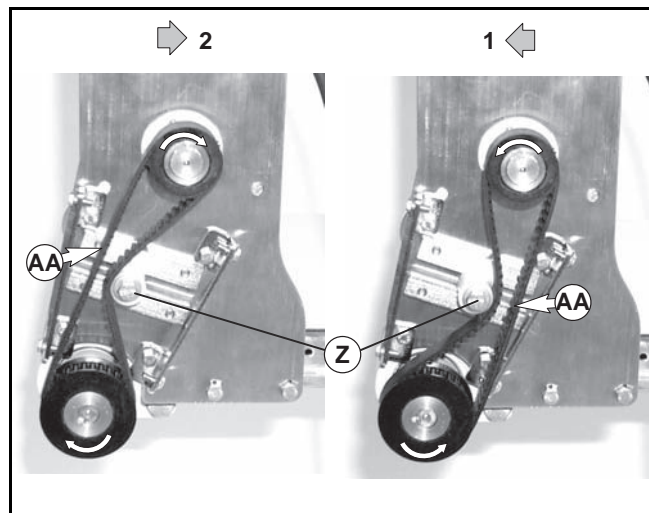

Figure 6
5. Depending on conveyor belt travel (direction 1 or 2 of Figure 6), locate timing belt tensioner (Z) as shown. Do not tighten tensioner screw.
8. Tension timing belt to obtain 0.125" (3 mm) deflection for 1.0 lb (456 grams) of force at timing belt mid-point (Figure 6, item AA). Tighten tensioner screw to 92 in-lb (10.4 Nm).